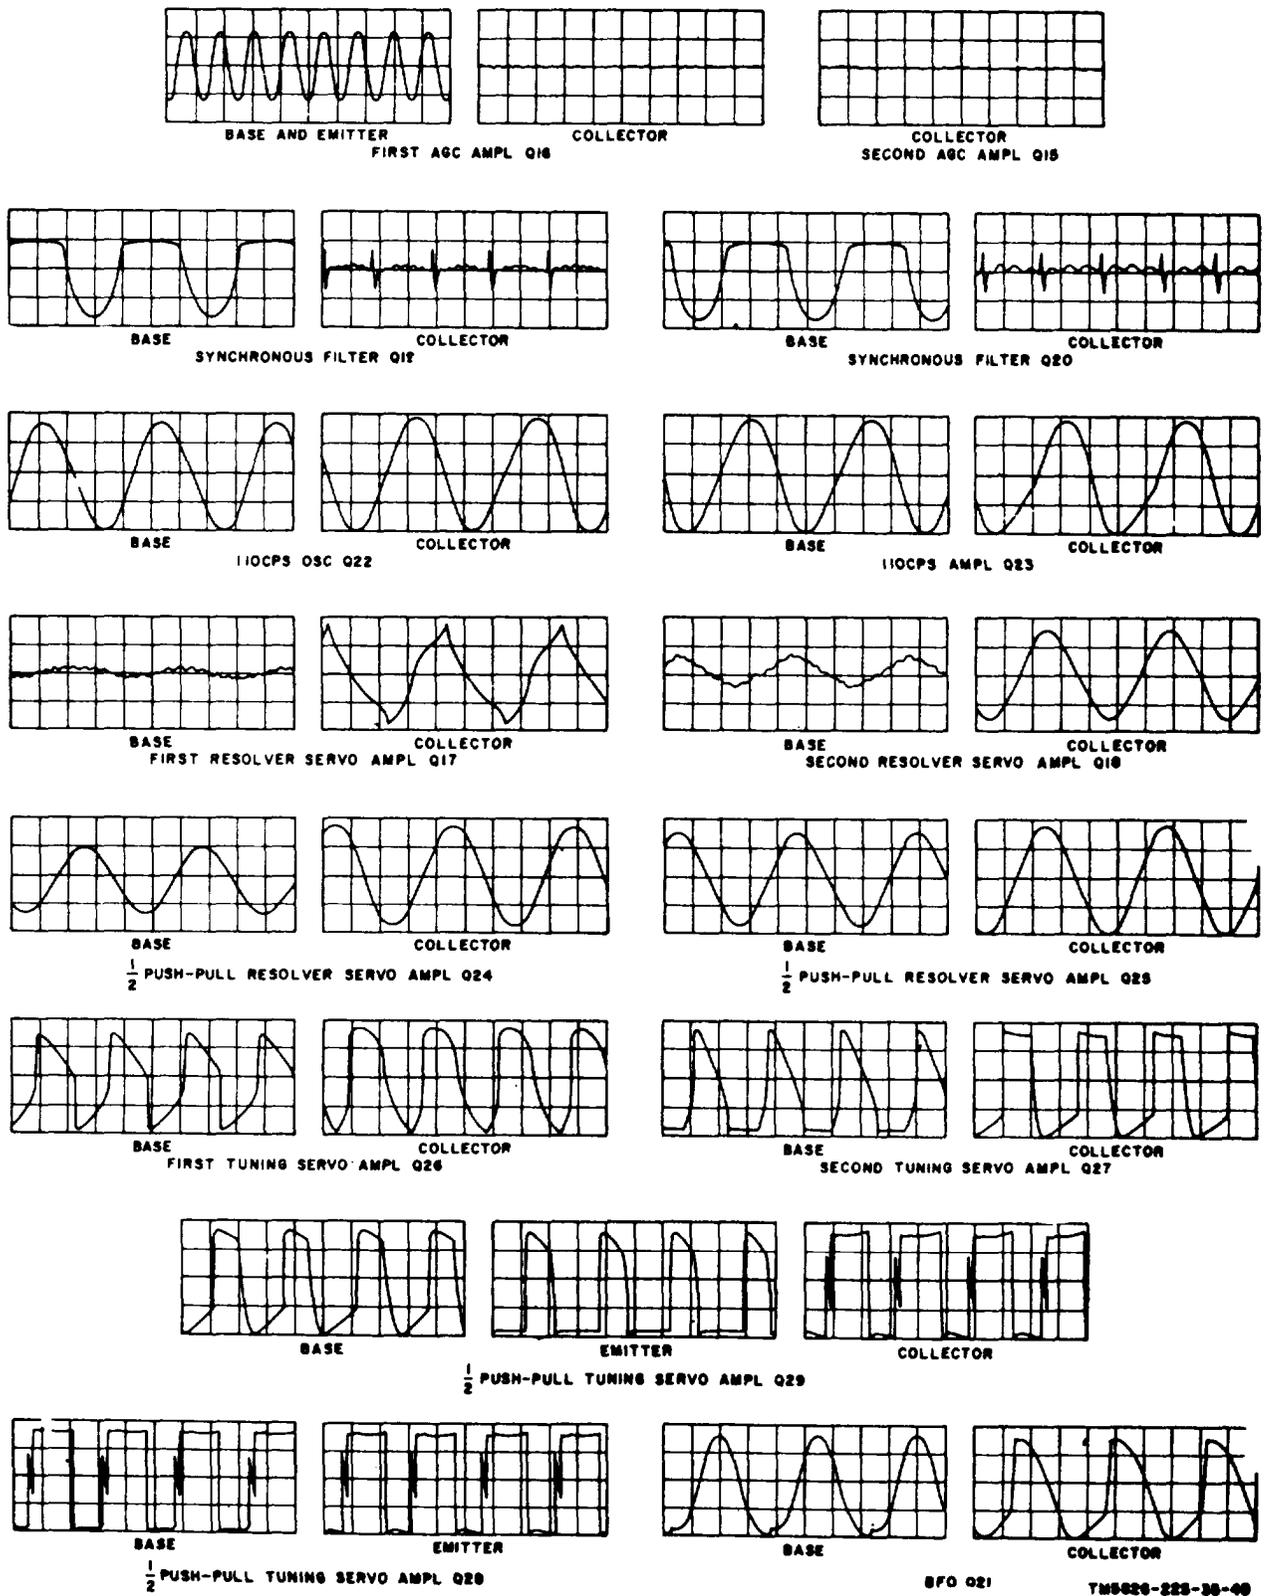

Figure 2-18. Receiver waveforms.
c. **Receiver Waveforms.** Typical waveforms at significant points in the receiver are shown in figure 2-18. Use oscilloscope AN/USM-140 when obtaining data for comparison with the waveforms shown in figure 2-18. The waveforms in figure 2-18 were obtained under the following conditions:
- (3) The 150PF-270PF control on the sense antenna adapter is set to 150PF.
- (4) The oscilloscope horizontal speed is adjusted to obtain a waveform similar to that shown in figure 2-18.